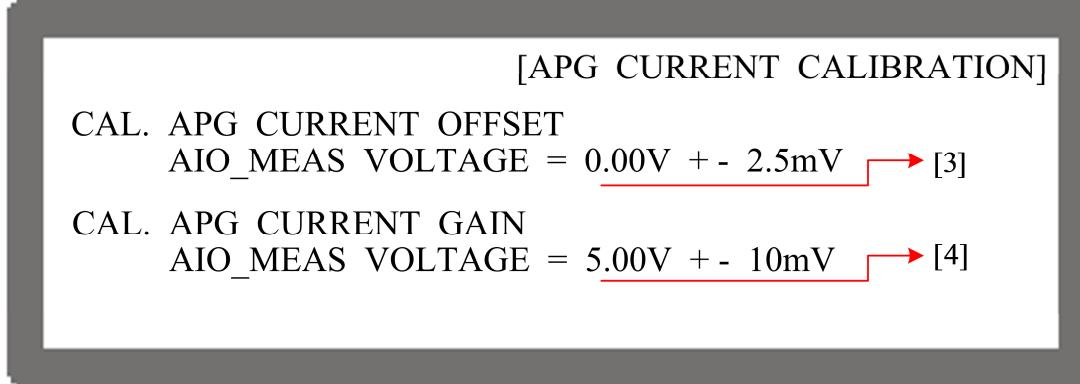

Figure 3-125
6. Press “” and the cursor stops at position [3] as shown in Figure 3-125. Open the device cover and find VR404 (adjustable resistor) on the PCB of 62xxxP-xx-xx C ver.x. Set the DVM2 reading of Pin6 to be  $0.00V \pm 2.5mV$  by adjusting the resistance of VR404.
7. Press “” and the cursor stops at position [4] as shown in Figure 3-125. Set the Electronic Load to CV mode with 5V loading and then open the device cover and find VR403 (adjustable resistor) on the PCB of 62xxxP-xx-xx C ver.x. Set the DVM2 reading of Pin6 to be  $5.00V \pm 10mV$  by adjusting the resistance of VR403. Once the reading is adjusted, press “” to confirm it and remove the loading from the Electronic Load.